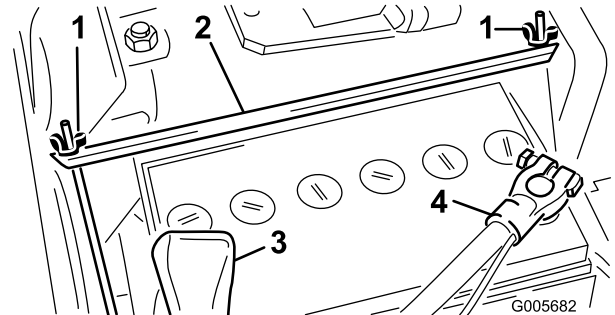

Figure 6
- Remove two wing nuts and hold down strap that secures battery (Figure 6). Lift battery out of chassis. Keep wing nuts and hold down strap in safe place for later use.
in kit (Fig. 6). Install manual tube into R-clamps and tighten capscrews (Figure 7).